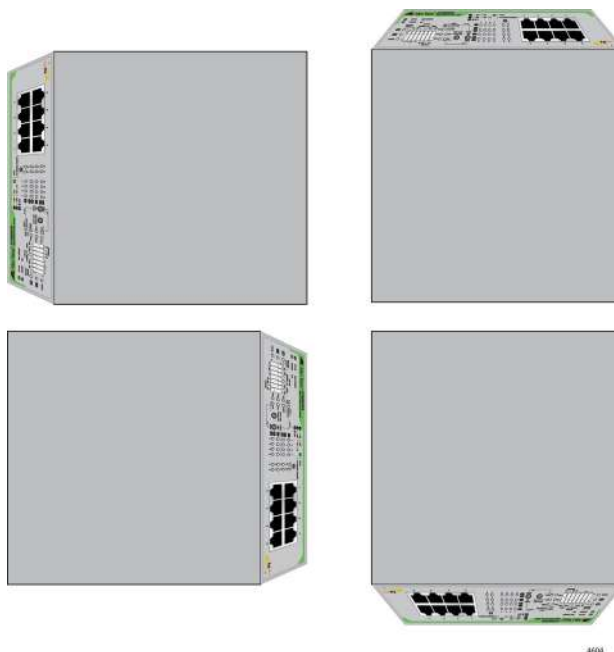

Figure 39. Orientations of the AT-GS920/8PS Switch on a Wall
- ❑ The AT-GS920/8PS switch must be mounted on the wall in one of the four orientations as shown in Figure 39.